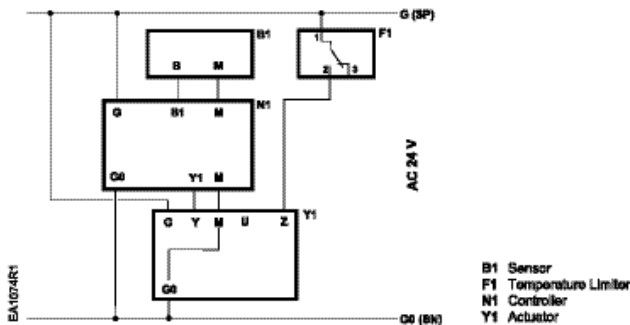

Figure 24.
- Wiring for SKB/C82...U is shown in Figures 24 through 26.